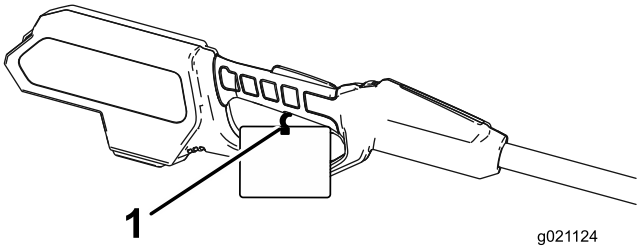

Figure 3
3. Cut the zip-tie away from your body and remove it from the trigger handle (Figure 3).